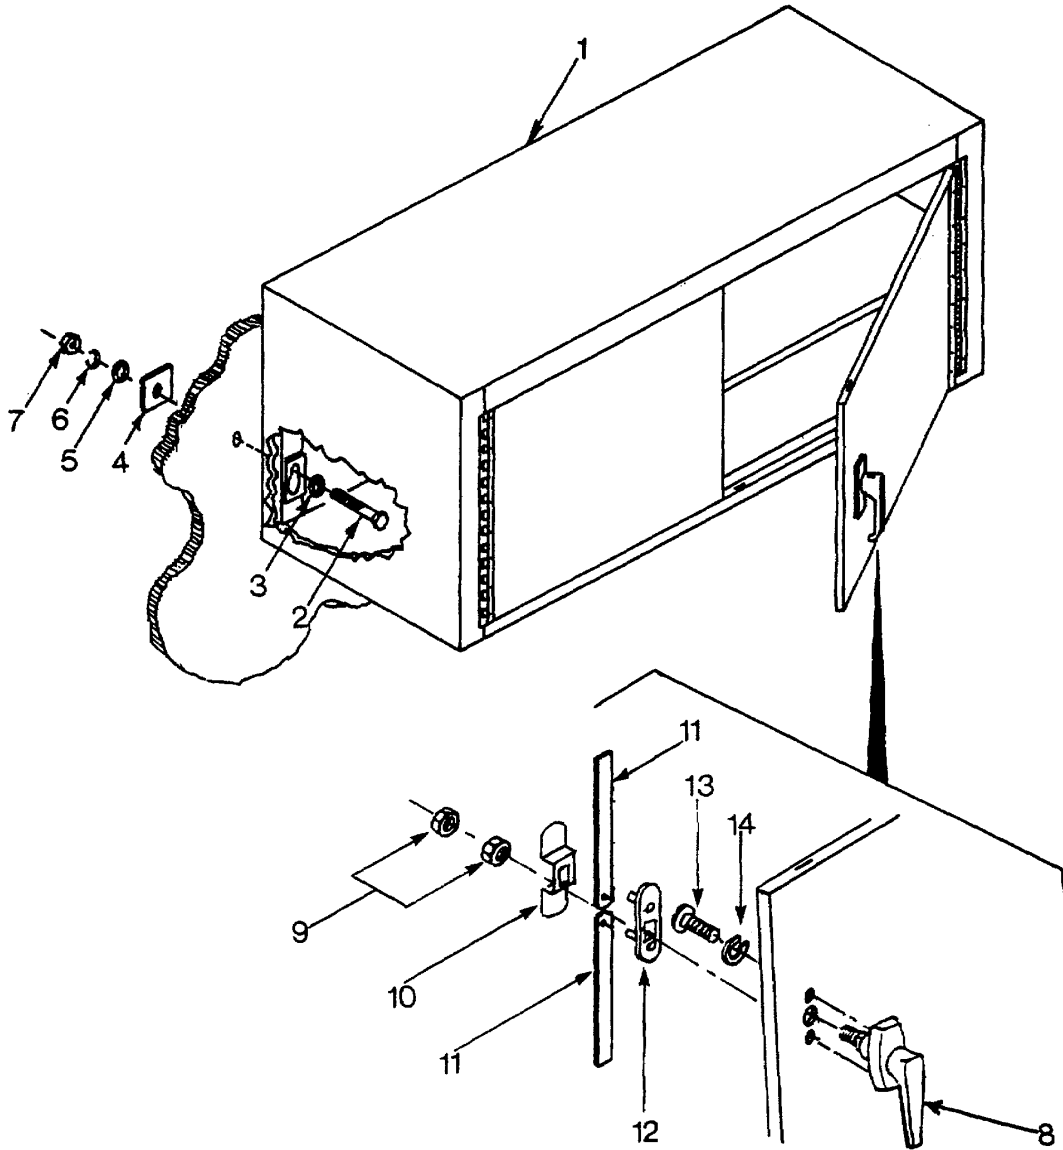

Figure 4-1. Wall Cabinet Assembly
a. Inspect. (See Figure 4-1.)
- (1) Check editorial wall cabinet for security of mounting. Check for dents and structural damage. Inspect welds for breaks or separation.
- (2) Check wall cabinet handles for security of installation and damage.
- (3) Check latching mechanism for proper operation and security.
b. Replace. (See Figure 4-1.)
- (1) Remove contents of wall cabinet shelves.
- (2) Remove bolts (2), flat washers (3), backing plates (4), flat washers (5), lockwashers (6), nuts (7) and cabinet (1).
- (3) Install wall cabinet (1), secure with bolts (2), flat washers (3), backing plates (4), flat washers (5), lockwashers (6), and nuts (7). Seal backing plate (4) to shelter wall with RTV (Appendix E, item 3).
- b. Replace - Continued. (See Figure 4-1.)
4-12. WALL CABINET ASSEMBLY. - Continuedc. Repair. (See Figure 4-1.)